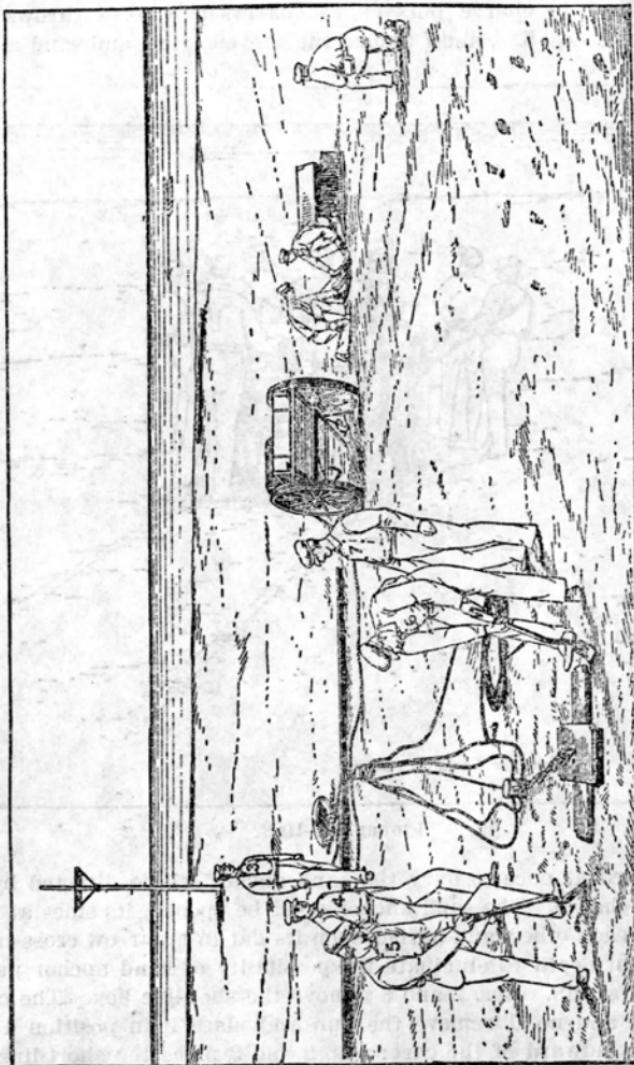
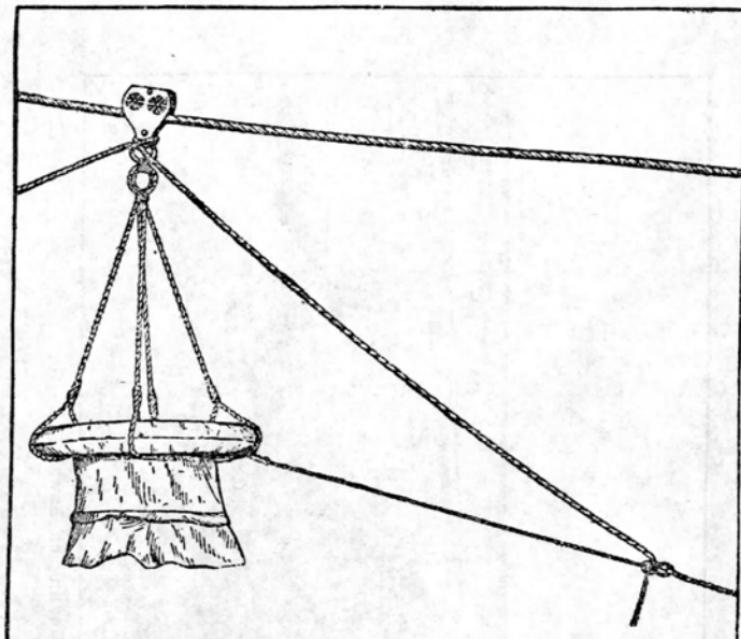

FIGURE 4.—Relative positions of men while placing apparatus.
FIGURE 9.—Manner in which whip is attached to breeches buoy.
(14) The hawser having reached the wreck, the lee man (no. 1 or no. 2) holds the breeches-buoy block while the officer in charge throws over it a clove hitch with the bight of the weather part of the whip, and hauls it snug around the neck. The block is then snapped on the hawser by the holder, and the officer in charge bends the buoy bridle into the whip, *inshore* of the buoy, with a bowline knot.
(15) If the closed buoy block is used, the buoy is passed down through the loops of the clove hitch and the hitch hauled very snug around the neck of the block. (See fig. 9.)
(16) When a threefold purchase is used, the pennant block is dispensed with, and as soon as the hawser is made fast to the wreck, the men who have been manning the weather part of the whip haul in the
199. (1) Action.—The relative positions assumed by the men for the purpose of placing the apparatus are shown by figure 4. The current is supposed to be running from the right, as shown by the arrow.
(2) Officer in charge puts on his haversack; no. 4 throws buoy off the cart; nos. 5, 6, and 7 unload the shovels, pick, and sand anchor,